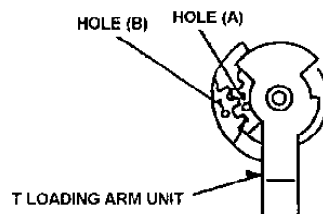

Fig.6-16-1 Phase Adjustment of T1 Lording Arm Unit
1. When install the T1 Loading Arm Unit, then the hole (A) should be matched hole (B) as shown in **Figure 6-16-1**.
3. Post Height Pre-adjustment (Refer to **item 5-3**) and Linearity adjustment (Refer to **item 5-12 [Tape Pass Adjustment Procedure]**) should be performed.